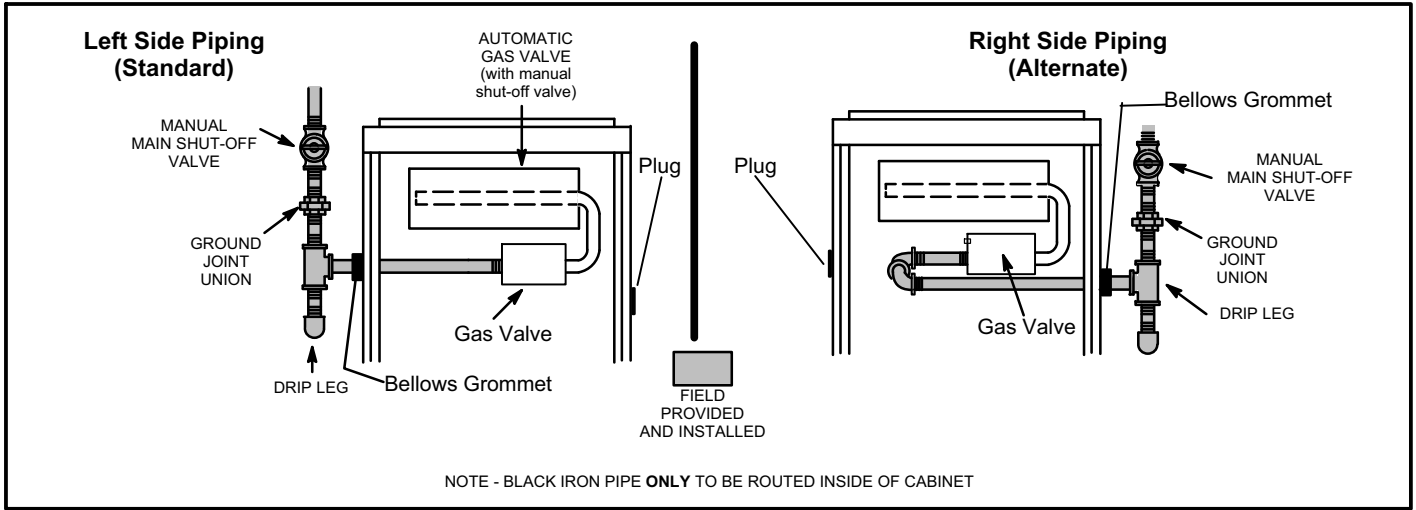

FIGURE 57
- 1 - Gas piping may be routed into the unit through either the left- or right-hand side. Supply piping enters into the gas valve from the side of the valve as shown in figure 57. Move Bellows grommet to side which gas line enters. Ensure opposite gas line hole is plugged with supplied plug.
- 3 - Gas piping must not run in or through air ducts, clothes chutes, chimneys or gas vents, dumb waiters or elevator shafts. Center gas line through piping hole. Gas line should not touch side of unit. See figures 57 and 58.